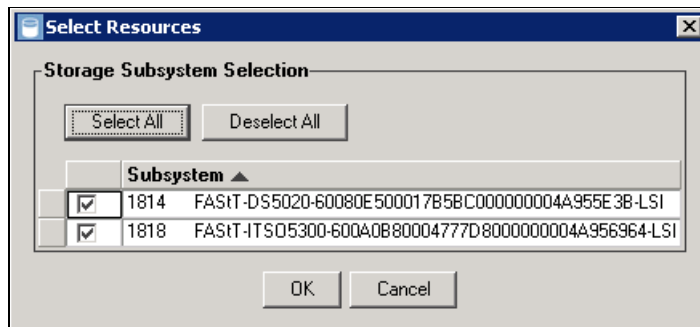

Figure 9-30 Storage subsystem selection
- Click **Selection** on the Selection tab to select the storage subsystems for which you want to generate the report. In our case, we select **DS5020** and **DS5300**, as shown in Figure 9-30.